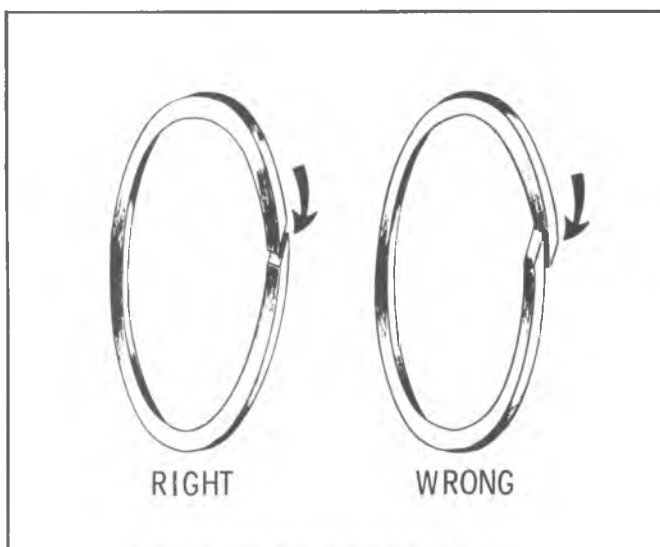

Figure 7A1-7 Teflon Oil Seal Rings
3. When installing angle cut seal rings, do not over-stretch. Make sure cut ends are in same relation as cut. (Figure 7A1-7). Also, make sure rings are seated in the grooves to prevent damage to the rings during reassembly of mating part over rings. Retain with petrolatum.